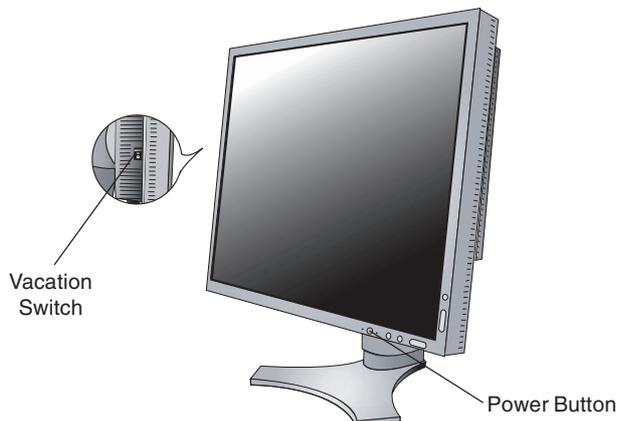

Figure E.1
9. The Vacation Switch on the left side of the monitor must be turned on. Turn on the monitor with the front power button (Figure E.1) and the computer.